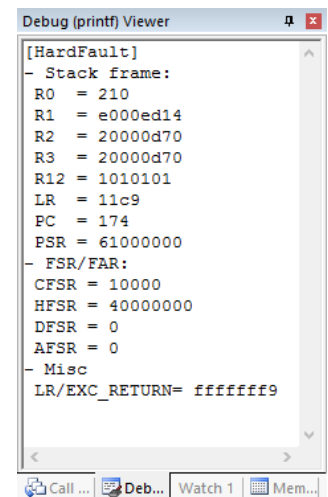

Figure 11 Handler output
- The handler written in C language uses the information from the assembly wrapper to extract the relevant information and to display it using `printf` statements (refer to Figure 11 for an output example).